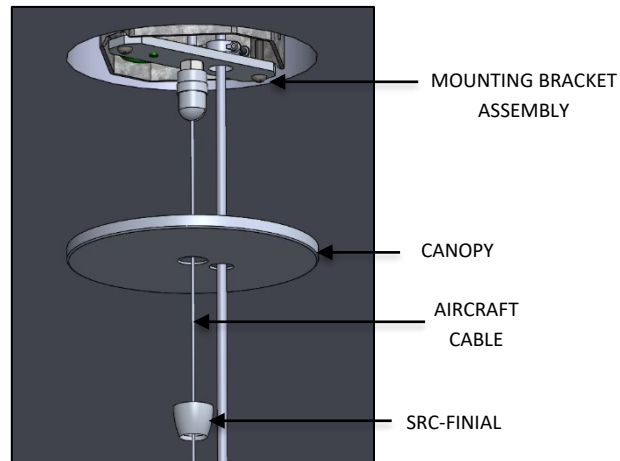

FIG. 18 - CANOPY INSTALLATION
9. Raise CANOPY and secure to ceiling by threading the FINIAL to the GRIPLOCK until fully seated as shown in FIG. 18.